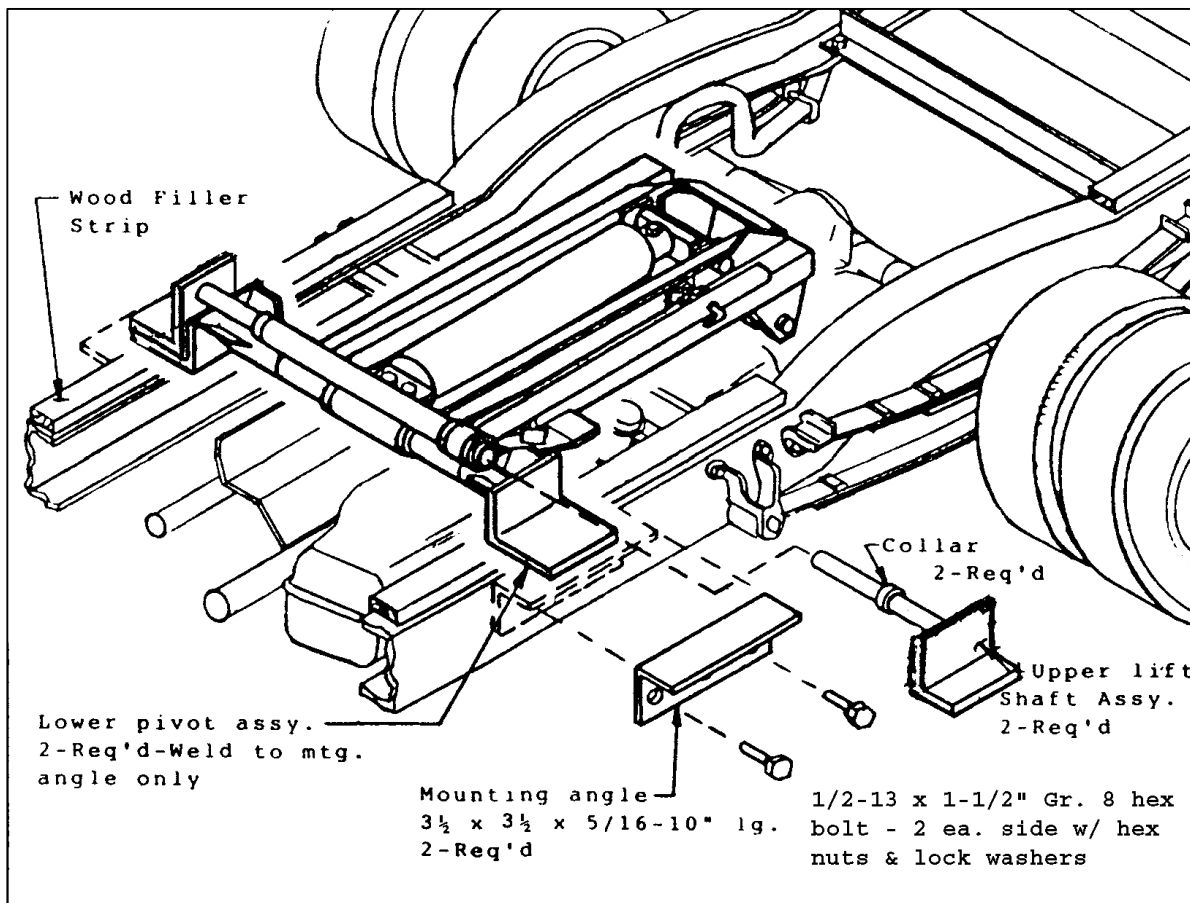

Figure 3 Mounting Angle/Lower Pivot Assembly
D. Locate the hoist on the truck frame, making sure to center and square the hoist to the truck frame. The VC-416/516 hoist is designed to rest on the truck frame as shown in Fig.3. A section of the hoist extends below the truck frame level, thus the hoist may have to be moved slightly forward or backward to avoid frame crossmembers. The distance between the rear hinge assembly center and hoist dimension. Table "A", figure 1 refers to dump angles associated with the "M" dimension.
▲ E. After the hoist is positioned, place a mounting angle (Fig. 3) under each of the lower pivots and against the truck frame. Clamp securely in place. Drill through the mtg. angle and frame (17/32") and fasten mounting angle with two [2] 1/2-13 X 1-1/2" hex head grade 8 bolts, lock washers and hex nuts (both sides).
F. With the hoist lower pivot assys. clamped to the mounting angles (3-1/2x3-1/2x5/16-10" lg.), weld the lower pivot assy. to the mounting angles. Position and secure the filler strips (wood or steel) to the truck frame (see fig. 3) The VC416/516 hoist requires at least 5-3/4" clearance above the truck frame.